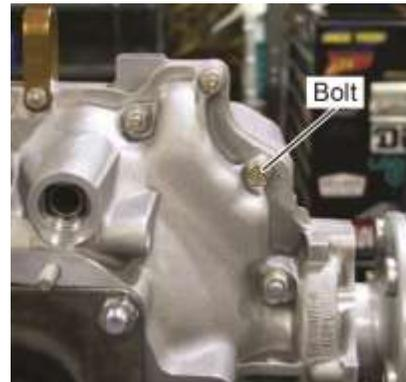

Figure 90
- (23) Apply Loctite® 564 to the threads of the bolt (Figure 90) to be installed behind the governor pad.
- (24) Install the bolt behind the governor pad (Figure 90). Torque the bolt per the torque values in Table 5.